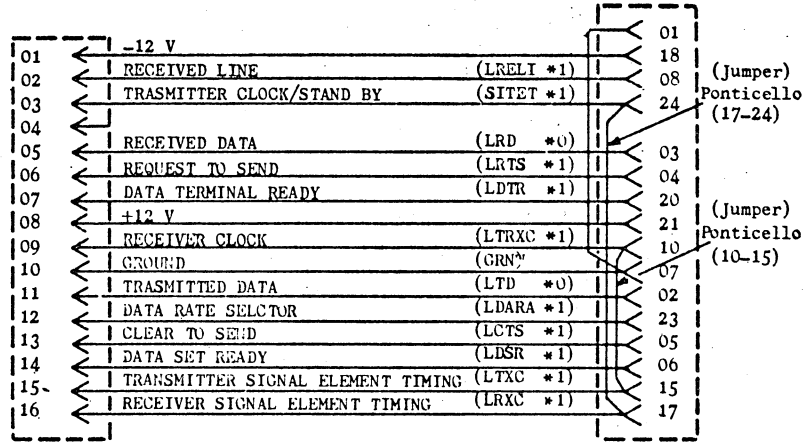

Fig. 6.6 - Modem Interface Cable (Internal) P/N 78118169-002
- 11 - Cut if necessary, the jumper between pin 1 and pin 7 on the interface connector P26 so that this jumper is present only on one side when connecting the SPPL to the host (see fig. 6.6)
Cut the jumpers between pins 10-15 and 24-17 on the internal interface connector P26 if the clocks are not to be provided by Poly (See fig. 6.6)